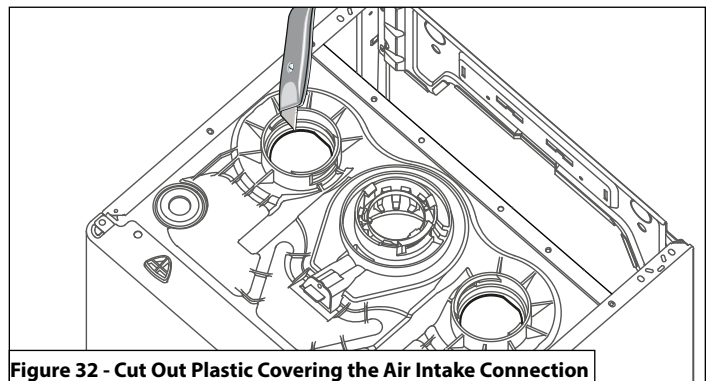

Figure 32 - Cut Out Plastic Covering the Air Intake Connection
**Follow the steps below to install air intake pipe into the boiler air intake connection. See Figure 32 for additional details.**
Select an air intake connection (left or right of the exhaust vent collar). See Figure 32.
1. Using a utility knife, cut out the plastic covering the air intake connection from the side chosen. **NOTE: DO NOT CUT OUT BOTH SIDES!** See Figure 32.